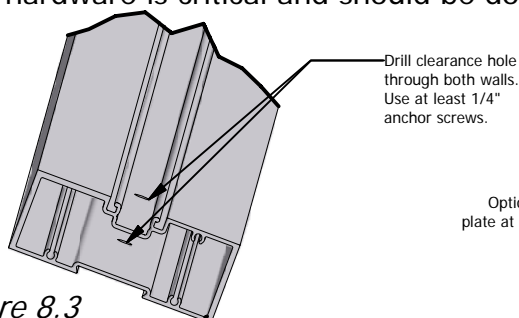

Figure 8.3
- D.) Drill anchor holes at your marks from previous step. The drilled holes need to be at least a 1/16" larger than screw outer thread diameter (*figures 8.3 & 8.4*). These holes are clearance holes (only the head of the screw should contact frame wall). Cross requires at least 1/4" anchoring screws or larger. Type of mounting screw used varies, depending on the building material into which the frame is being mounted. Length of anchoring screw depends on needed bite, clearances, and frame depth. Selecting the right anchoring hardware is critical and should be done by professional installers.